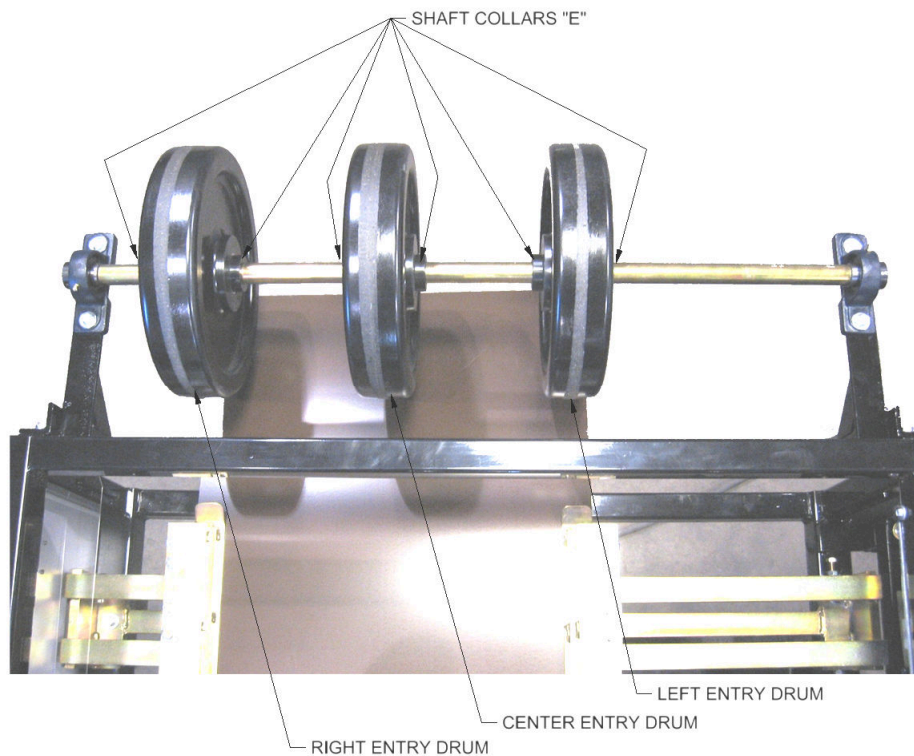

Figure 30: Entry Drum
1. Using a 3/16" Allen wrench, loosen the Shaft Collars "E", on either side of the Entry Drums that need to be adjusted (Figure 30).